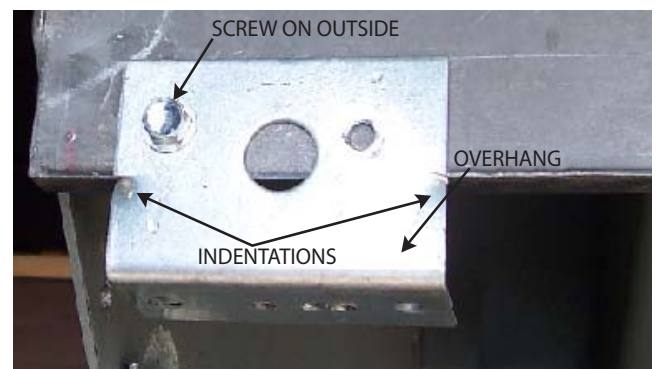

FIGURE 15
4. Using a peen or screwdriver, indent the bracket at the point the plate goes past the edge of the header plate. (See Figure 15) This will keep the bracket from spinning out of place during operation. Indent both sides of bracket.